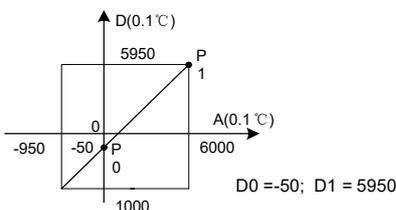
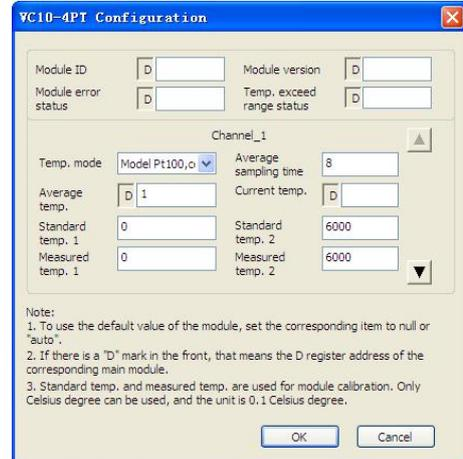
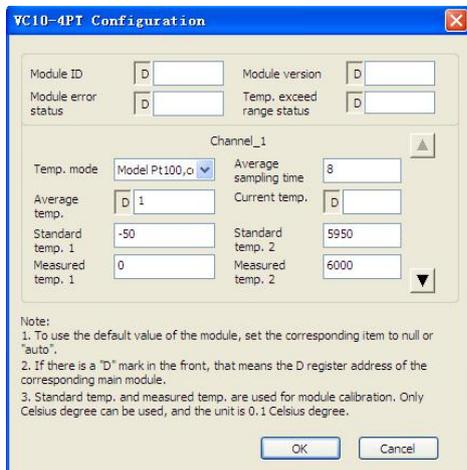

Figure 3-3 Change characteristic
Figure 4-1 Setting CH1
Figure 4-4 Changing characteristic
11. BFM#4094: module software version, displayed automatically as **Module Version** in **VC10-4PT Configuration** dialogue box of the host software, as shown in Figure 4-1.
You can change the characteristics by changing D0 and D1. The setting range of D0 is -1000 ~ +1000 (0.1°C); D1, 5000~7000 (0.1°C). If the setting is outside this range, VC10-4PT will not accept it, but maintain the original valid setting. Figure 3-3 provides for your reference an example of characteristics adjustment when the measured value is 5°C (41°F) higher the actual value.
Example: The VC10-4PT module address is 0. Connect CH1 to Pt100 thermal resistance to output Celsius data, CH2 to Cu100 thermal resistance to output Celsius data, and CH3 to Cu50 to output Fahrenheit data and close CH4. Set the average sampling times to 4, and use data registers D1, D2 and D3 to receive the average value. See Figure 4-1 ~ Figure 4-4 for the setting method. For further details, see *VC10 Series PLC Programming Manual*.
Example: The VC10-4PT module address is 0. Connect CH1 to Pt100 thermal resistance to output Celsius data, CH2 to Cu100 thermal resistance to output Celsius data, CH3 to Cu50 to output Fahrenheit data and close CH4. They all have the characteristics shown in Figure 3-3 (the VC10-4PT measured temperature is 5°C/41°F higher than the actual one). In this case, CH1, 2 and 3 will output respectively 6000, 1200 and 2480 at the actual measured temperature of 600°C, 120°C and 248°F. Use data registers D1, D2 and D3 to receive the average value. The channel characteristic adjusting method is shown in Figure 4-4. Note that the unit is Celsius, and the adjusting range is within ± 1000 ($\pm 100^\circ\text{C}$).